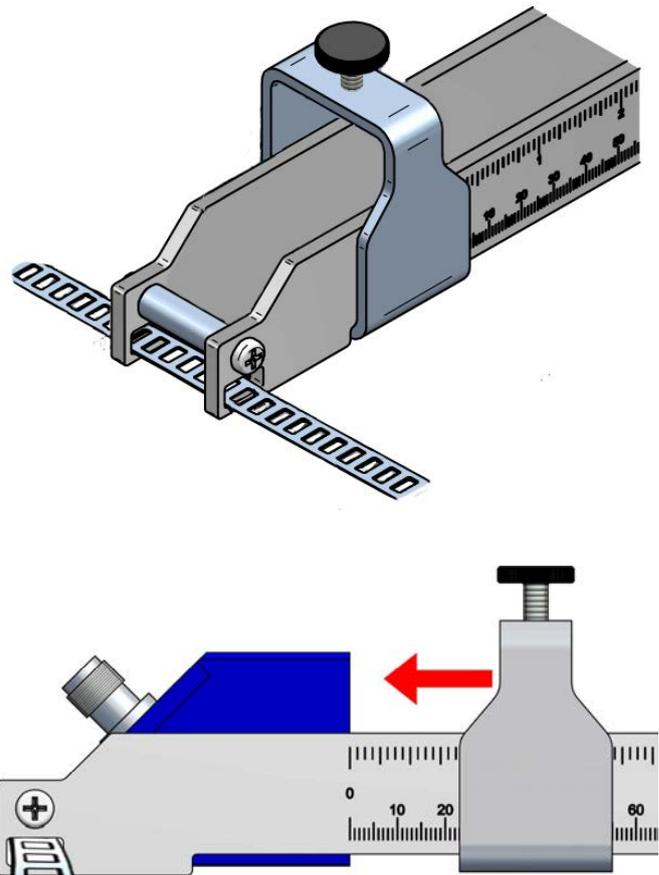
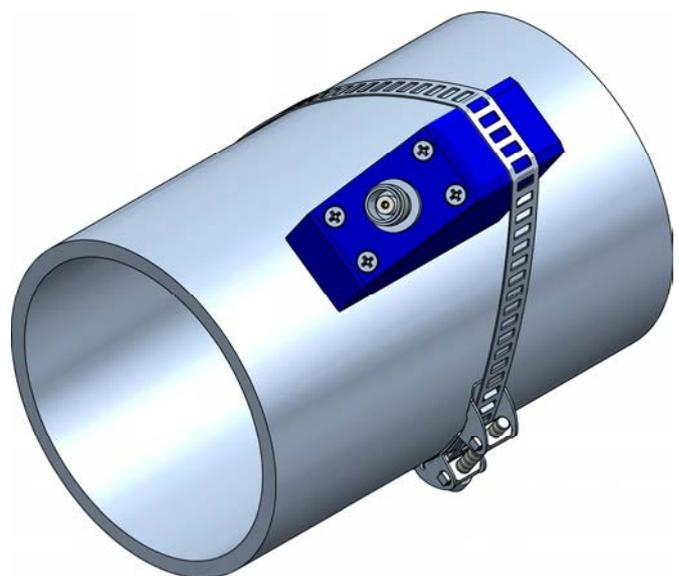

Fig. 4. Guide and guide strap
Fig. 5. Transducer strap
- Pipe DN80 ... DN350: by means of graduated guide and guide straps, supplied by Tecfluid (Fig. 4), V-type installation. Optional mounting by means of transducer straps (Fig. 5).
- Pipe DN400 ... DN2000: by means of transducer straps, supplied by Tecfluid (Fig. 5), Z-type installation. For these pipe sizes, the transducers must be installed opposite each other and the guide is not available.